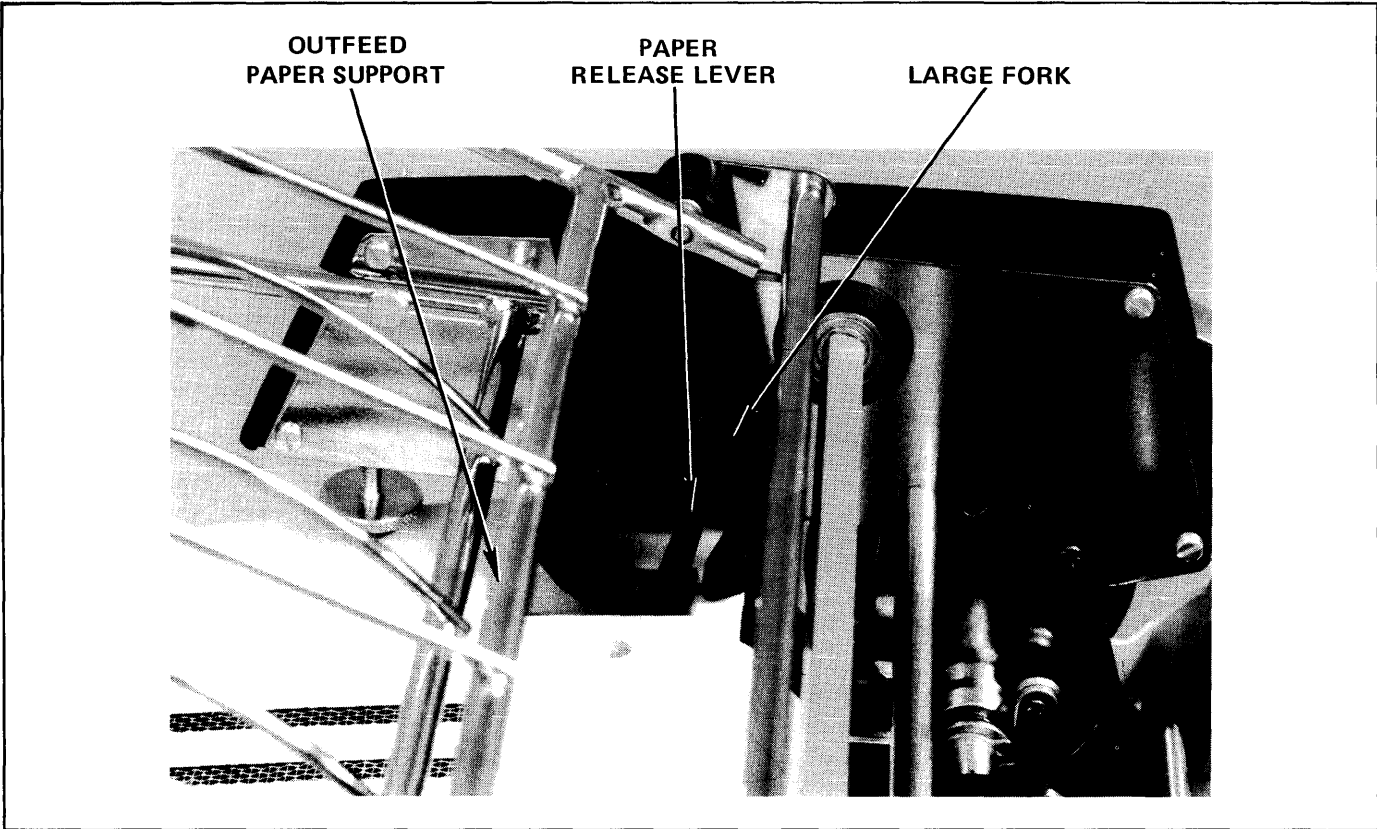
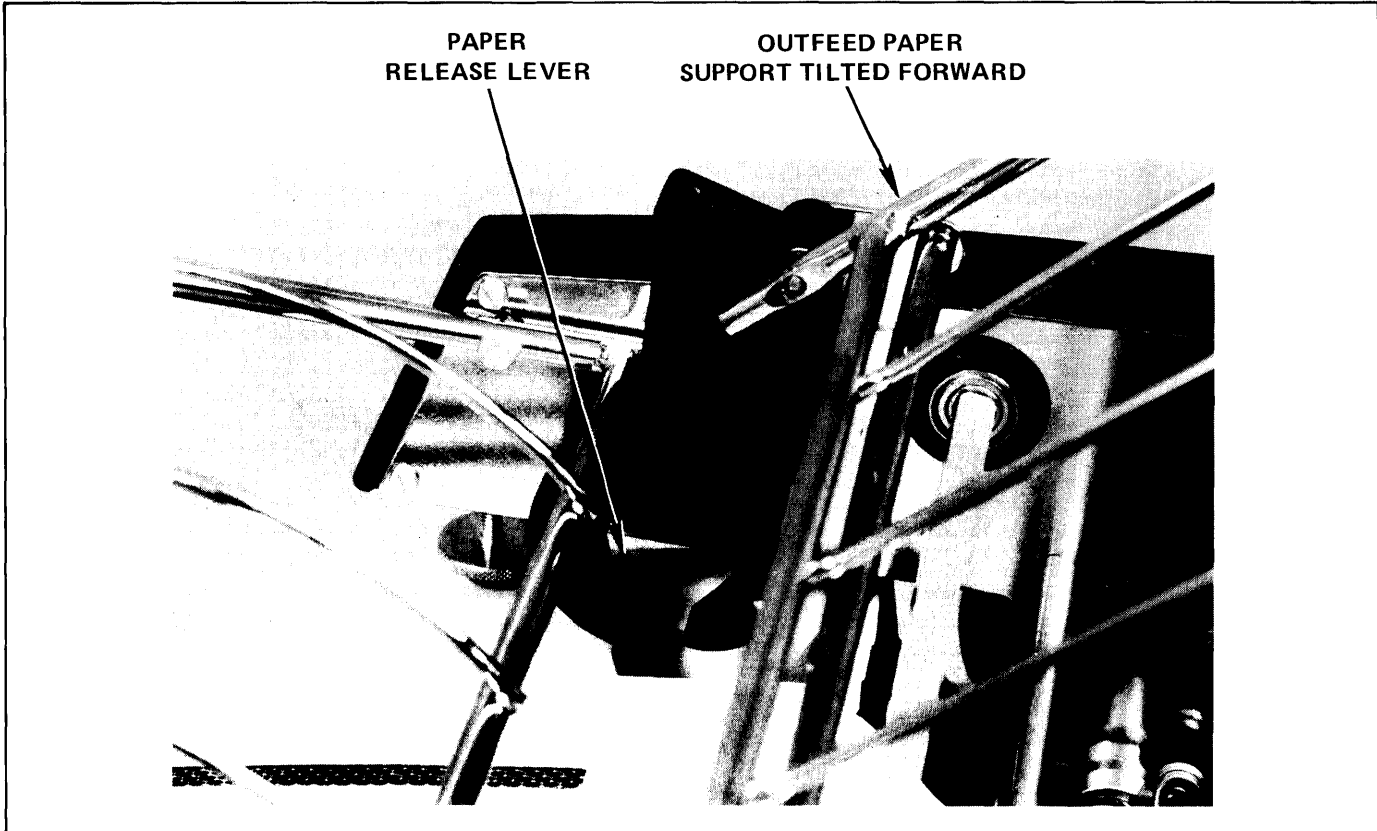

Figure 2-18. Forms Tractor and Paper Release Lever (Tension Removed)
Figure 2-19. Forms Tractor and Paper Release Lever (Tension Applied)
- (4) Guide the large fork inside the right end of the forms tractor around the paper release lever, as shown in Figure 2-18.
- (5) Press the two clamp buttons in and lower the forms tractor down on the platen shaft. Release the clamp buttons to clamp the assembly to the platen.
- (6) Tilt the outfeed paper support forward and verify that the paper release lever snaps to its rearward position (Figure 2-19), to apply pressure to the paper and platen. Swing the outfeed paper support back to its normal position and verify that the paper release lever is pulled forward, as shown in Figure 2-18. This is the normal operating position with paper tension released.